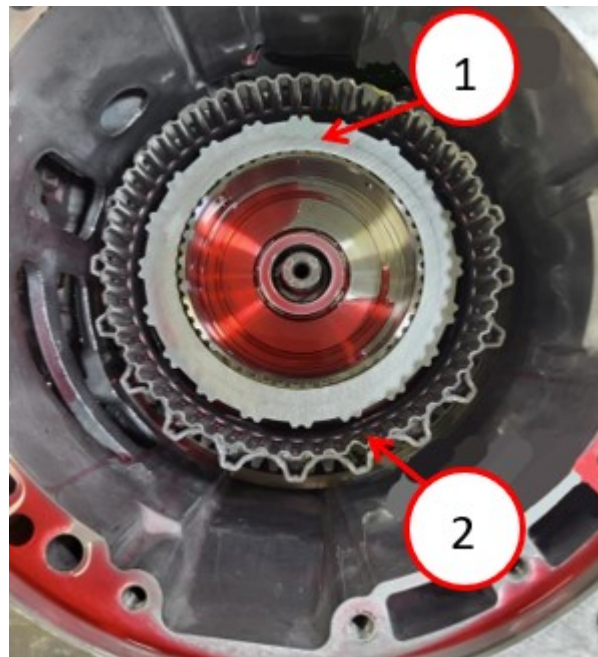

Fig. 7
10. Is the K1 snap ring dislodged (Fig. 7) ?